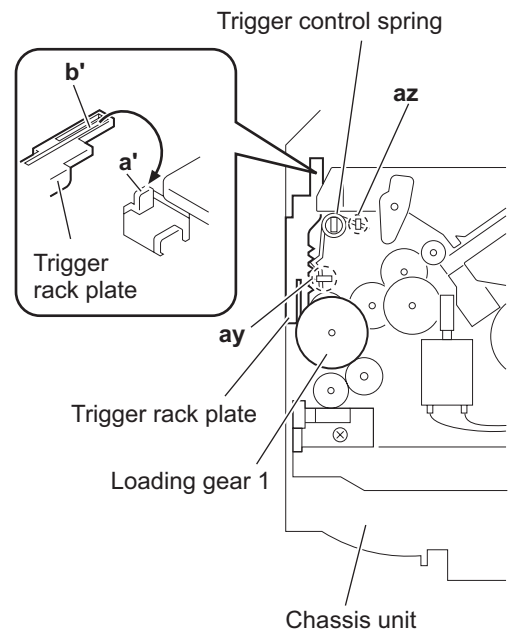

Fig.26
- From the bottom side of the chassis unit, pull out the loading gear 1. (See Fig.26.)
- Remove the trigger control spring from the sections (**ay**, **az**). (See Fig.26.)
- Take out the trigger rack plate from the chassis unit. (See Fig.26.)
When attaching the trigger rack plate, insert the projection **a'** of the chassis unit in the slot **b'** on the bottom side of the trigger rack plate as before. (See Fig.26.)